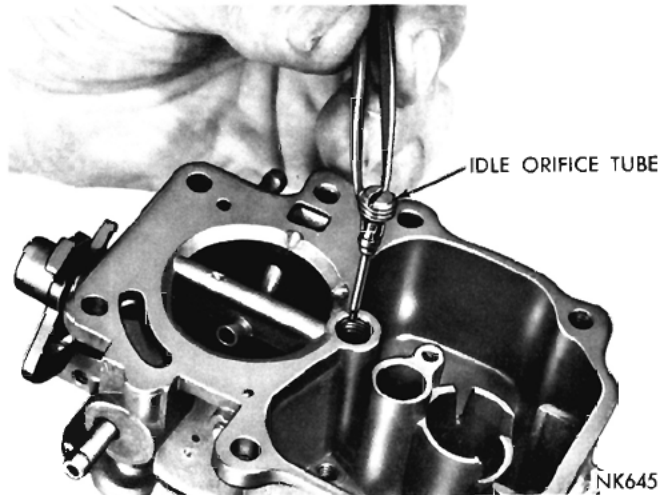
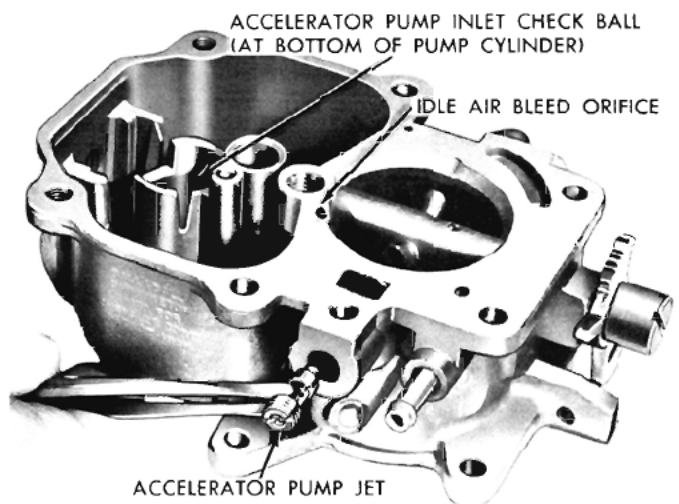

Fig. 6—Removing or Installing Idle Orifice Tube
Fig. 7—Removing or Installing Accelerator Pump Jet
(13) Unscrew and remove the idle orifice tube, as shown in (Fig. 6).
(14) Invert the carburetor and drop out the accelerator pump check balls from their respective seats.
(15) Using Tool T109-43 plug remover, remove the accelerator pump jet plug. Using Tool T109-59T, remove the accelerator pump jet, as shown in (Fig. 7).
(16) Unscrew and remove the idle mixture adjust-
(4) Install the accelerator pump jet, as shown in (Fig. 7). Tighten securely, using Tool T109-59T. Install a new plug and drive tightly in place.
(5) Install the idle orifice tube, refer to (Fig. 6). Tighten securely.